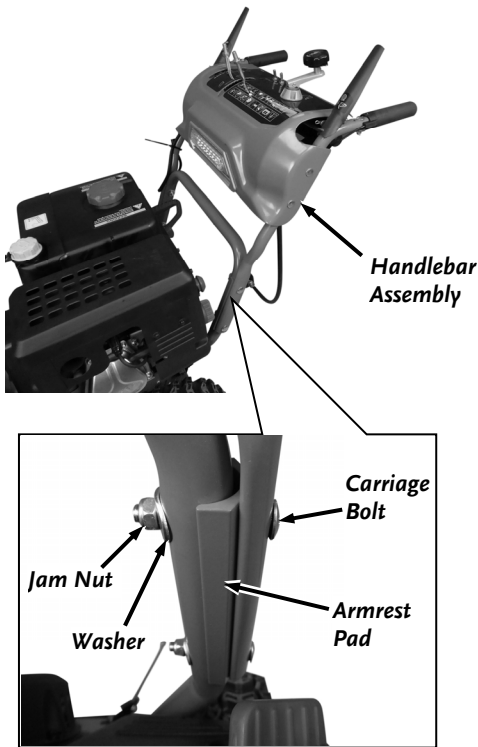

Figure 9
5. Have a helper hold the upper Handlebar Assembly in position on the lower Handlebar (**Figure 9**).